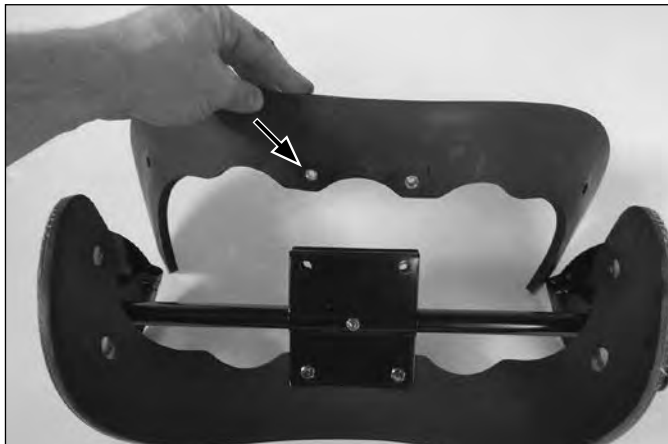

Fig. 025
3. Remove the paddle. Be sure to remove the rotor blade spacers (A) and install them in the new paddles (Fig. 025).